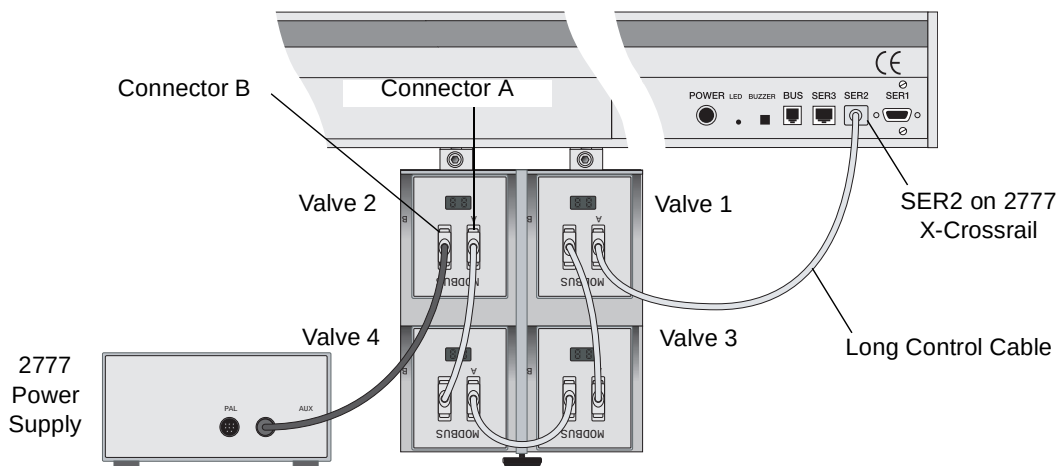

Figure 2-17 Connecting Control Cables to the 4-Valve Module (Rear View)
4. Connect the control cables as follows (Figure 2-17):